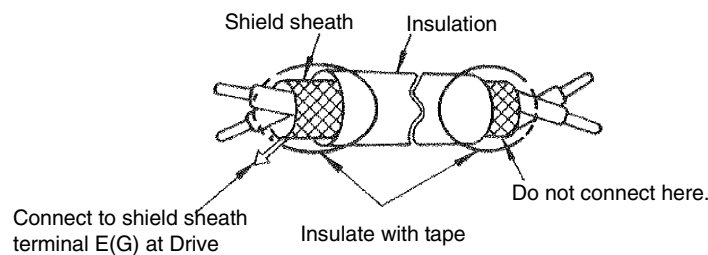

Fig 2.12 Preparing the Ends of Twisted-pair Cables
5. Use twisted-pair or shielded twisted-pair cables for control circuits to prevent operating faults. Prepare cable ends as shown in Fig 2.12.